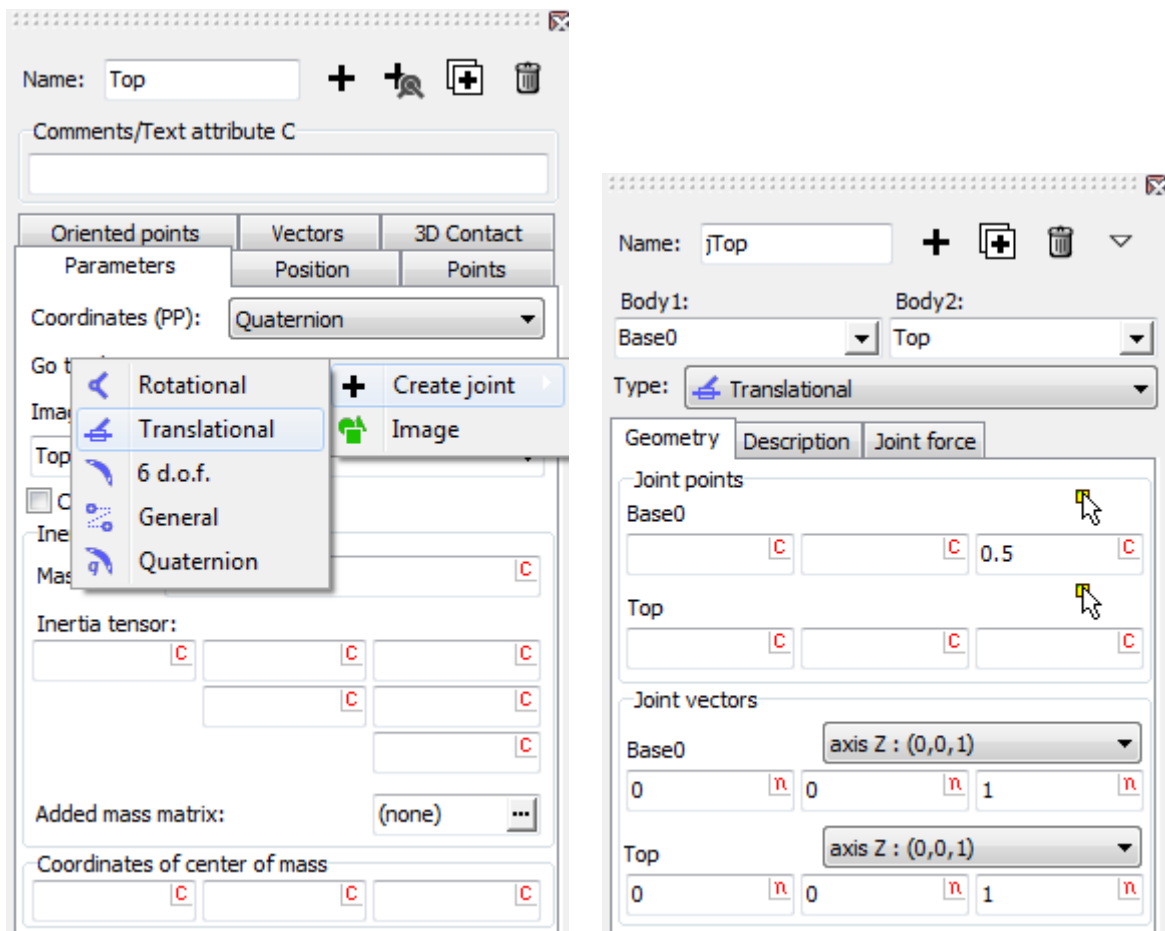

Figure 2.8. Creating translational joint
2. Click the  button. Select **Create joint** and in the drop-down list select **Translational**, see the Figure 2.8, left. The new joint of this type is created. Now you can see parameters of the joint.
3. Select the **Geometry** tab and set joint parameters as it is shown in the Figure 2.8, right.